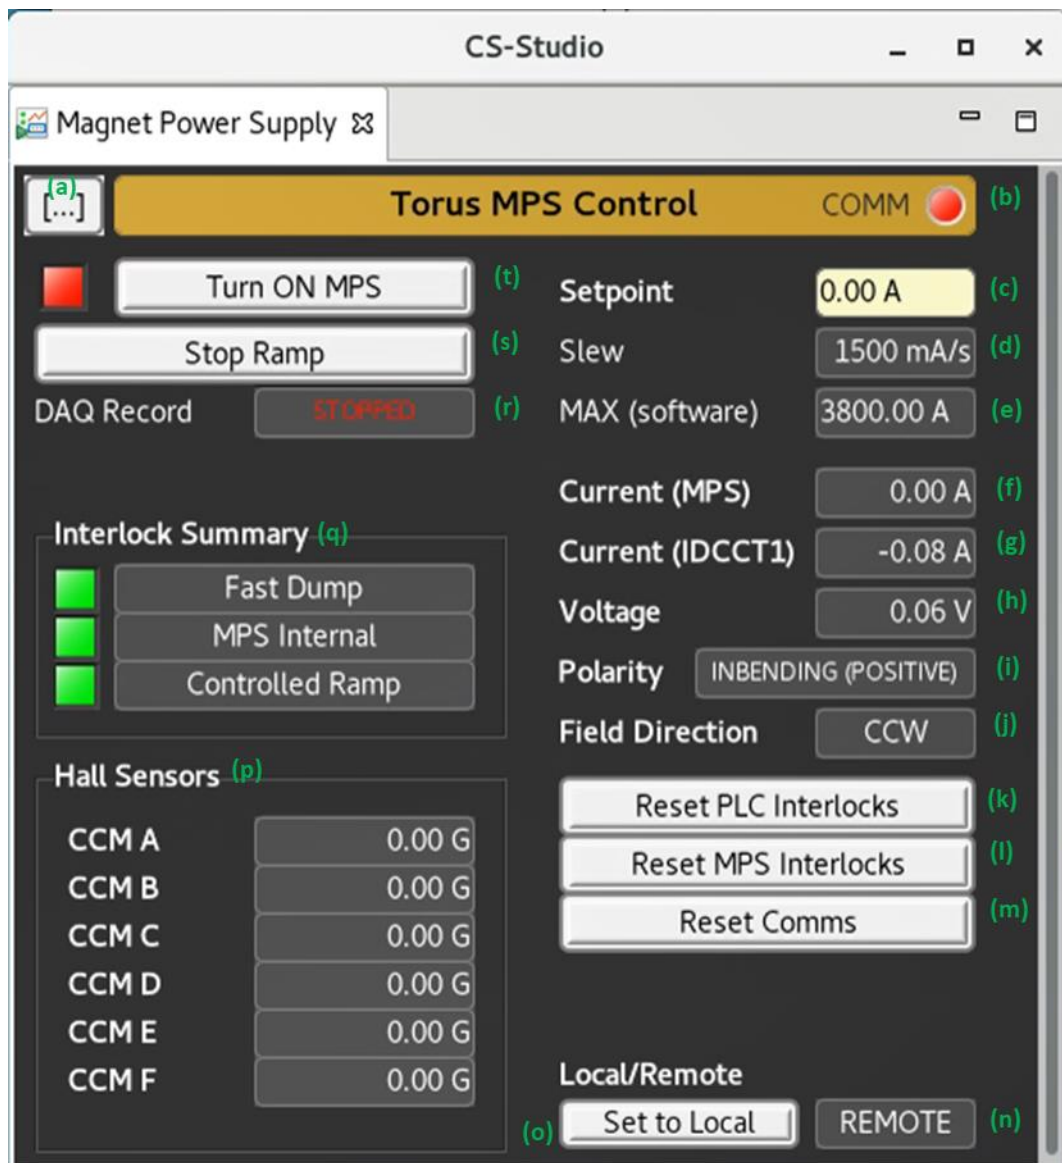

Figure 1 - JLab MPS Control – EPICS
Shift workers will typically operate the magnet using the Magnet Power Supply (MPS) Control Screen shown in Figure 1 below.
Reference should be made to Figure 1 and Table II.
- Status of interlock screen – click on Item (a) (see Figure 1) and select 'Interlock Status'
- ☐ Re-setting the Quench Detector (QD) units remotely
- The 'QD Hard Reset' button can found on the same EPICS screen as the Interlocks. Click on button (a) (See Figure 1) and select 'Interlock Status'. The reset button is at the bottom right of the screen.